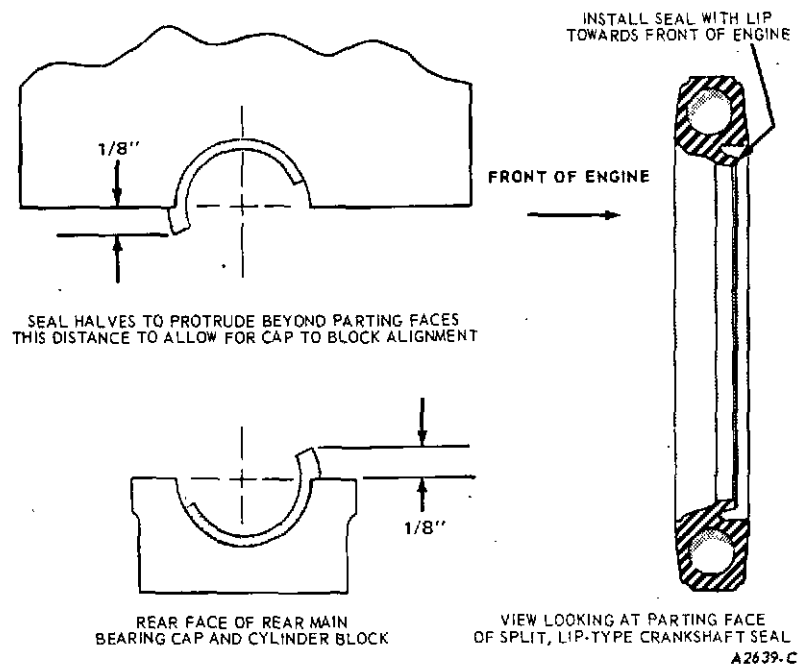

FIG. 52 Installing Crankshaft Rear Oil Seal
3. Carefully install the upper seal (cylinder block) into its groove with undercut side of seal toward the FRONT of the engine (Figure 52), by rotating it on the seal journal of the crankshaft until approximately 1/8 inch protrudes below the parting surface.
5. Install the lower seal in the rear main bearing cap with undercut side of seal toward the FRONT of the engine (Figure 52), allowing the seal to protrude approximately 1/8 inch above the parting surface to mate with the upper seal when the cap is installed.